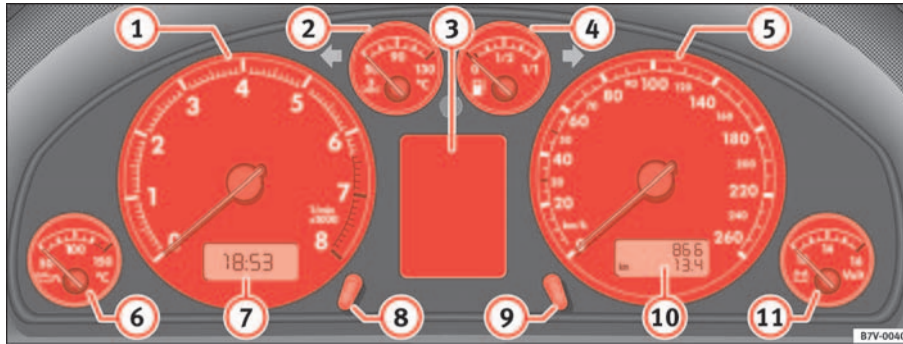

Fig. 44 Detail of the dash panel: Instruments
If, for example, the needle is directly over the 2, this corresponds to an engine speed of 2000 rpm (revolutions per minute) ⇒ page 62, fig. 44 ①.
- Turn the setting knob ⇒ page 62, fig. 44 8 briefly in an anti-clockwise direction to move the hour forward by one hour or
The top counter of the mileage display ⇒ page 62, fig. 44 10 registers the total mileage covered by the vehicle.
The lower counter registers the short journeys. The last digit indicates steps of 100 metres. The trip recorder counter may be reset by the reset button ⇒ page 62, fig. 44 9. ■
The voltmeter ⇒ page 62, fig. 44 11 indicates the voltage of the vehicle electrical system. The voltage of the electrical system should normally be ▶
The service display is shown either on the mileage display ⇒ page 62, fig. 44 (10) or in the display ⁷⁾ in the combi-instrument ⇒ page 62, fig. 44 (3).